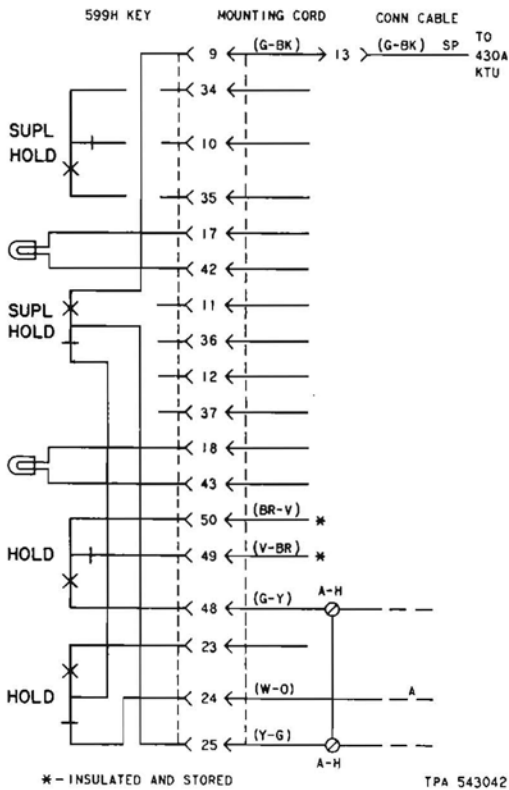

Fig. 6—Priority Hold, Using 599H (MD) Key
- Show 533K Diode (Station Busy Lamp Diode) Fig. 6 and 7 replacing KS-15724L1 Diode